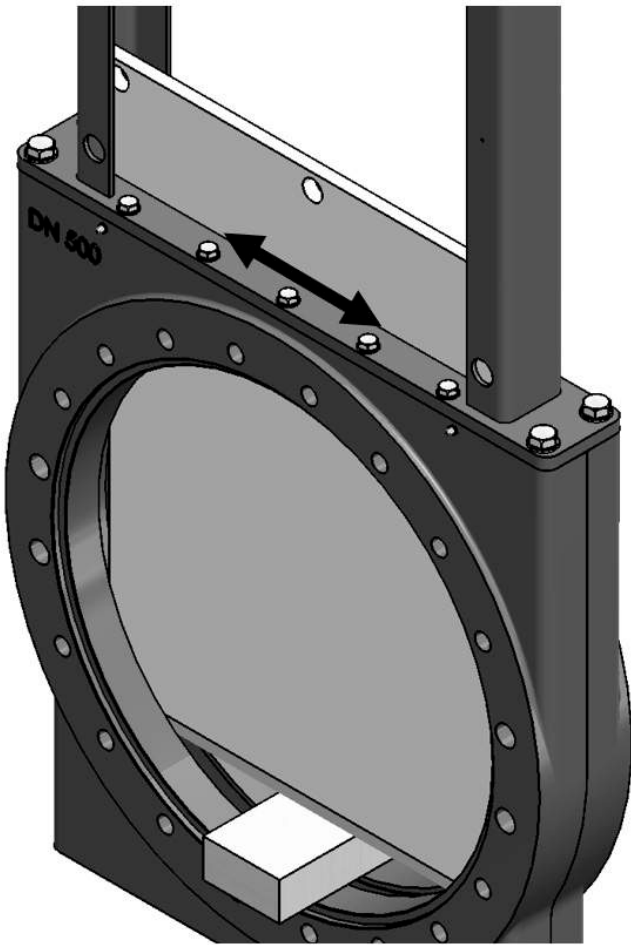

Figure 16. Tightening the tower mounting bolts.
1. After the valve body and gate have been assembled, lift and fit the tower (3) on the valve body. Install the tower mounting bolts hand tight (5).
2. Tighten the mounting bolts by starting from the middle as shown in the Figure 16.
3. Fit the actuator (and possible adapter plate) on the top of the tower (3) using the correct bolts and nuts.
4. Assemble the clevis (14) to the actuator stem if it was dismantled.
5. Stroke the actuator stem down or lift the gate to fit the clevis pin (16) through the aligning holes of the gate (2) and clevis (14). Secure the clevis pin with the retaining rings (17).
6. Install the bottom cover plate (12) and tighten the bottom cover bolts (10).